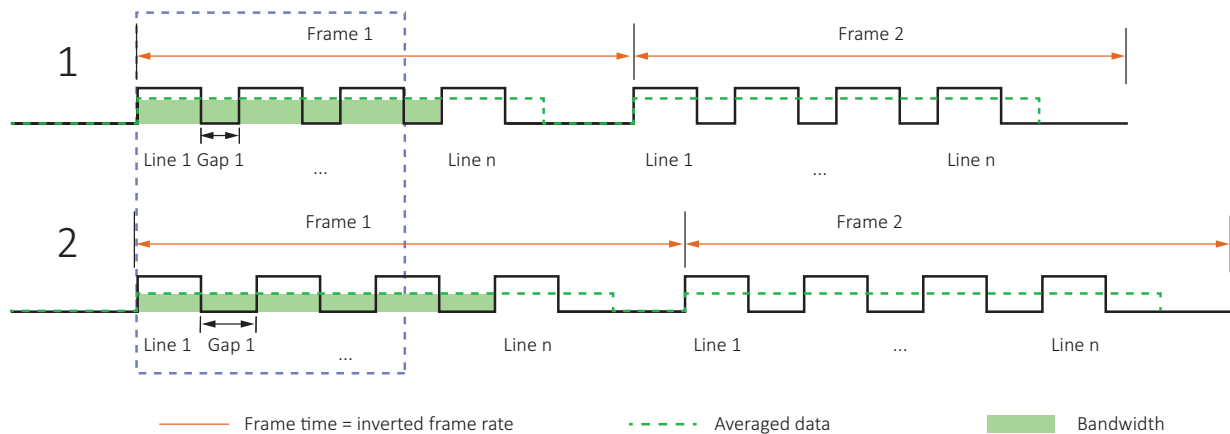

Figure 64: Sensor data output and camera data output
Figure 64 shows the bandwidth for a higher (1) and a lower (2) value for `DeviceLinkThroughputLimit`.